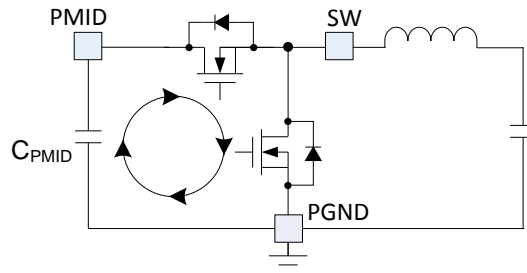

Figure 4: Hot Switching Loop
- 1, PMID capacitor routing. The key point is to minimize the "hot loop" of the high frequency switching current. As shown in figure 4, the high side switching MOSFET Q3 and low side switching MOSFET Q4 construct a switching bridge. During the switching transient, the current passing in the switching MOSFETs has an ultra-fast current changing speed (di/dt), this fast changing current induces magnetic field into the PCB and space and is the source of the EMI generation. The di/dt is in nano seconds level and it has rich harmonic components. The most important thing is to make this fast changing current limited in as small area as possible on the PCB, which means, minimize the loop shown in figure 4. In another word, connect the PMID capacitor's positive terminal as short as possible to the PMID pin, and connect the PMID capacitor's negative terminal as short as possible to the PGND pin. In real application, the best way is to use a 1206 size PMID capacitor to locally bypass the switching bridge, and the SW trace can be routed beneath the PMID capacitor. If the above approach can not be achieved, the second choice is to use vias to connect the PMID capacitor's ground node to IC's PGND pin, this requires enough